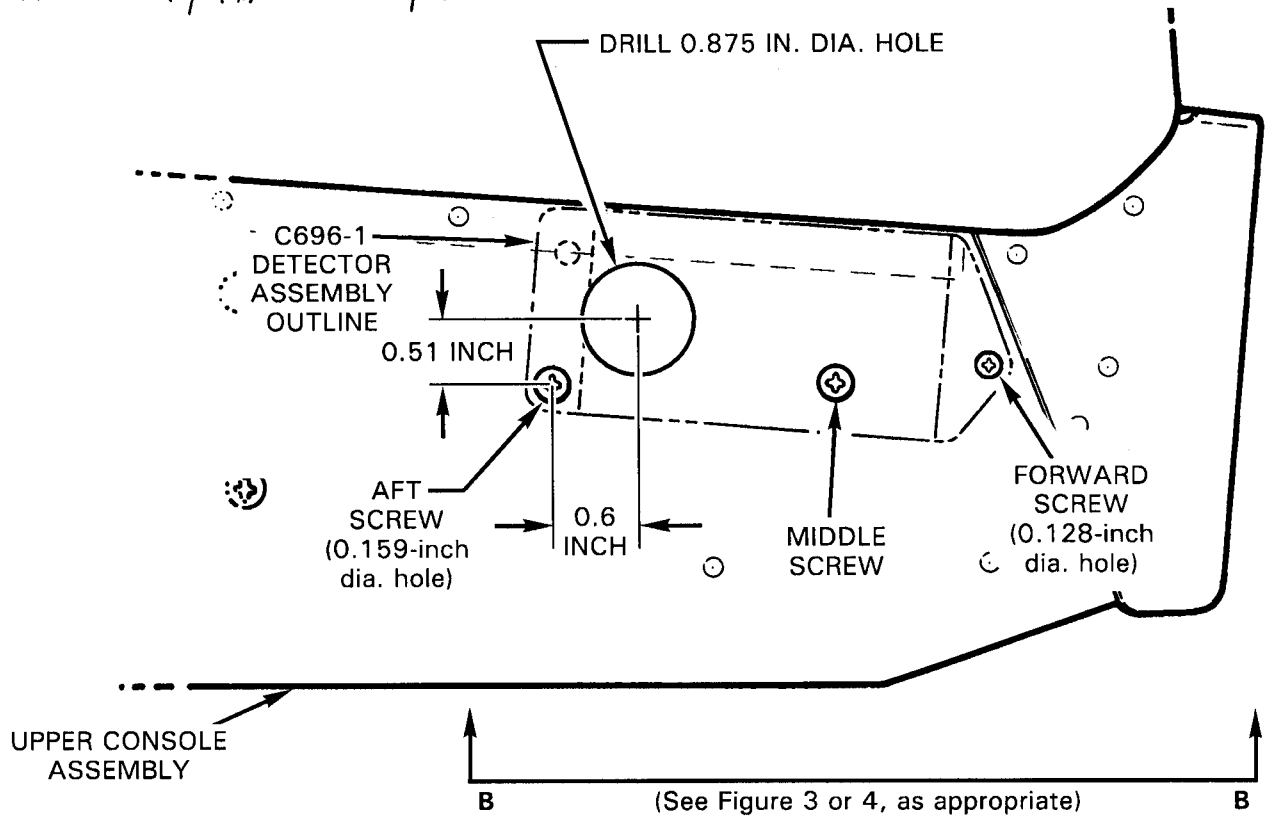

FIGURE 2: VIEW A-A
11. Identify forward, middle, and aft screws as shown in Figure 2. Note position of washers & nuts and remove screws. On 28-volt ships, avoid losing washers between terminal block and B395-1 dimmer assembly. If screws are not installed, use C696- detector's body as a template and layout and drill forward and aft mounting holes as indicated.
12. Layout and drill a 0.875 inch-diameter hole in right side of console as shown in Figure 2. Use a vacuum cleaner to capture debris while drilling and deburring. Deburr hole edges and prime with zinc-chromate or epoxy primer.
13. Reference Figure 2. Secure warning lights terminal block with retained middle screw, washer, and nut.